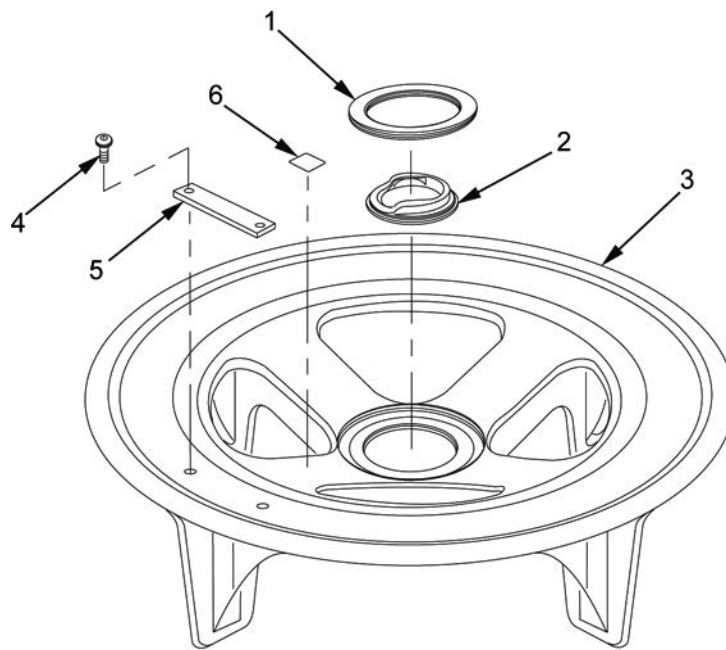

Figure 1. Disassembly/Assembly of Mortar Baseplate.
1. If removed, apply adhesive to new IUID label (Figure 1, Item 6) and place on baseplate (Figure 1, Item 3). When adhesive is dry, apply protective clear coat to label.
2. If nameplate (Figure 1, Item 5) was removed, apply sealing compound to threads of two button head screws (Figure 1, Item 4).
3. Align holes in nameplate (Figure 1, Item 5) with holes in baseplate (Figure 1, Item 3). Install two button head screws (Figure 1, Item 4) to secure nameplate.
4. Position retaining cap (Figure 1, Item 2) in socket of baseplate (Figure 1, Item 3) and secure with spiral retaining ring (Figure 1, Item 1).